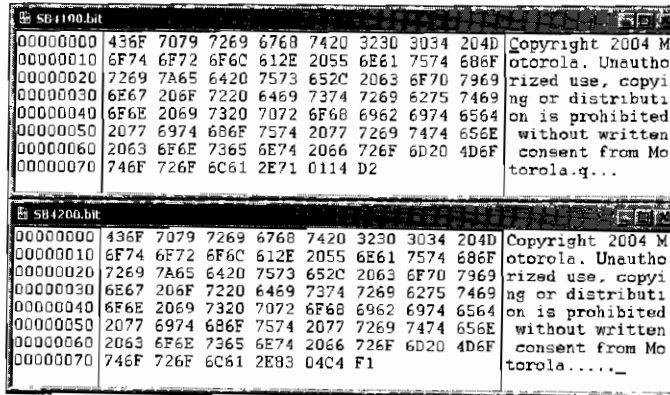

Figure 21-1: The hexadecimal display of the required bit files for SB4100 and SB4200
1. Create a bit file using a hex editor. This will be a new binary file whose contents match the data shown in Figure 21-1. Your new file must match exactly, and be precisely 123 bytes in size, or else it will be invalid.